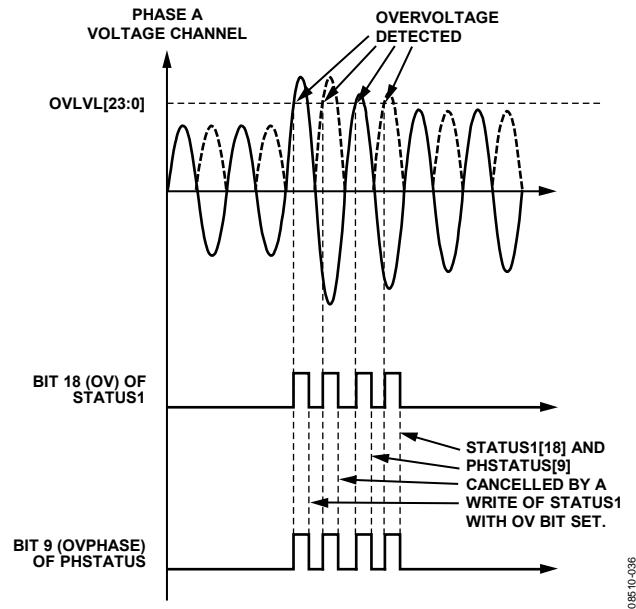

Figure 49. Overvoltage Detection
The Status Bit 18 (OV) in the STATUS1[31:0] register and all Bits [11:9] (OVPHASE[2:0]) in the PHSTATUS[15:0] register are cleared and the  $\overline{\text{IRQ1}}$  pin is set to high by writing to the STATUS1[31:0] register with the status bit set to 1. Figure 49 presents overvoltage detection in Phase A voltage.